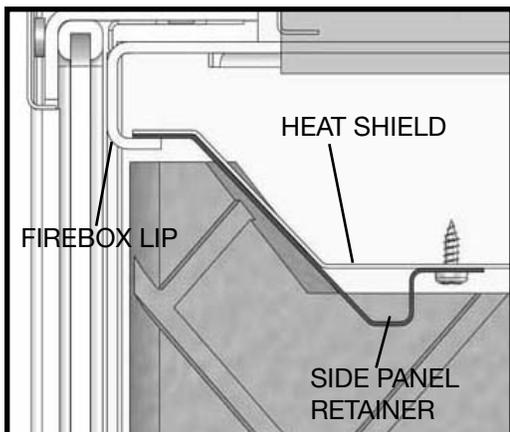

Figure 53: Panel Retainer.
1. Remove the Side Panel Retainer located on the underside of the firebox heat shield. The retainer slips between the lip of the firebox and the heat shield and is retained in place by two screws Figure 53.